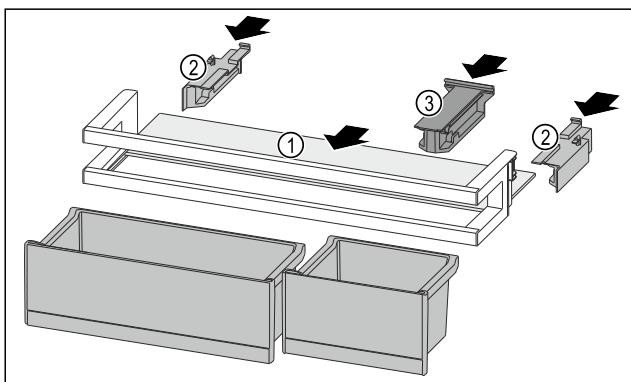

Fig. 175
- ▶ Push the shelf Fig. 175 (1) into the side recesses.
- ▶ Insert the side parts Fig. 175 (2).
- ▶ Insert the holding part Fig. 175 (3).